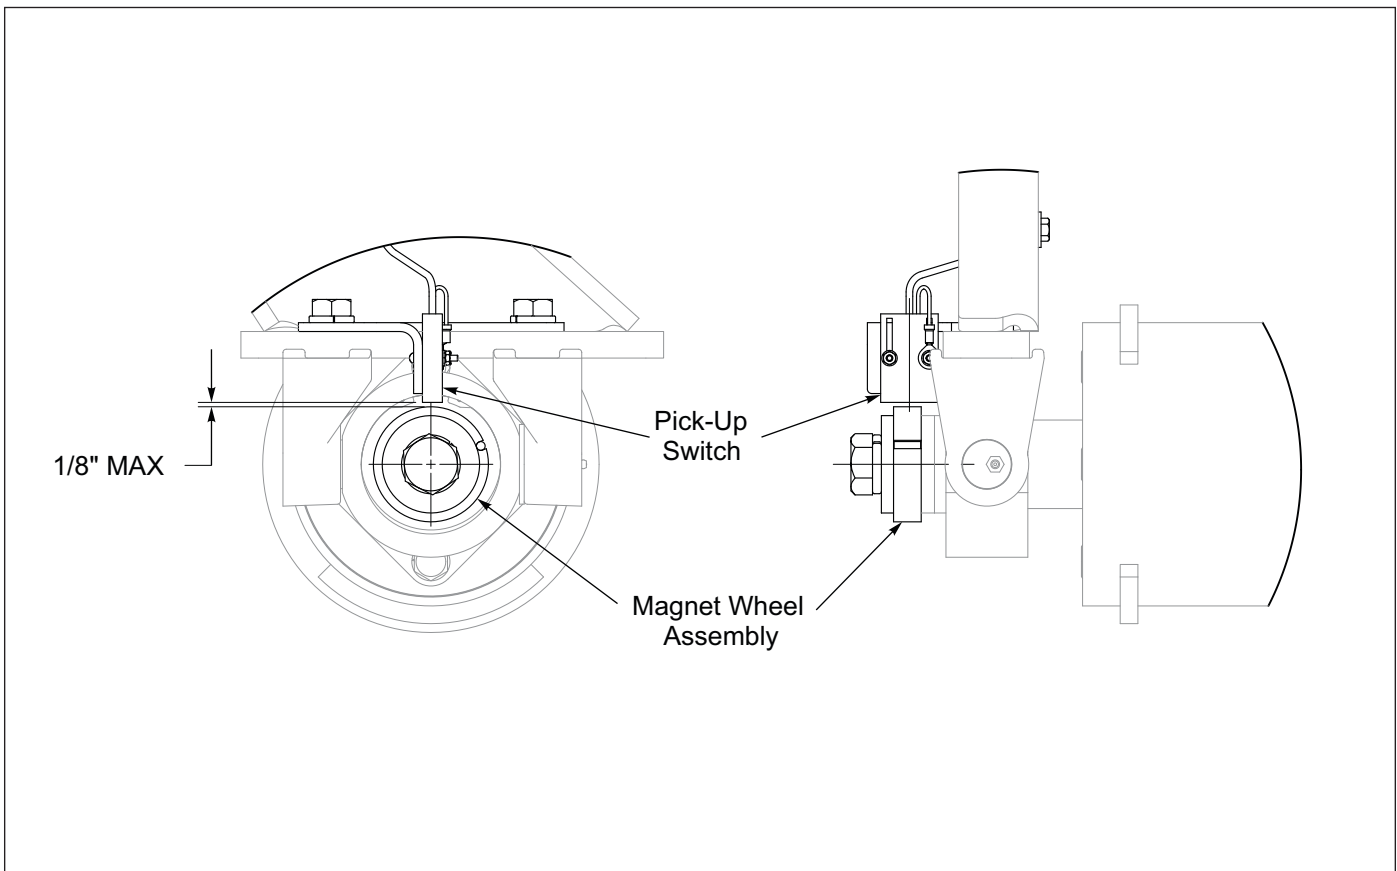

Figure 2-25: Acre Meter Switch Side View
4. Adjust the Acre Meter Switch so the center line of magnet wheel and pickup switch are horizontally and vertically aligned with a maximum 1/8" between Magnet Wheel and Pick-Up Switch. Now firmly tighten all screws. **See Figure 2-25.**